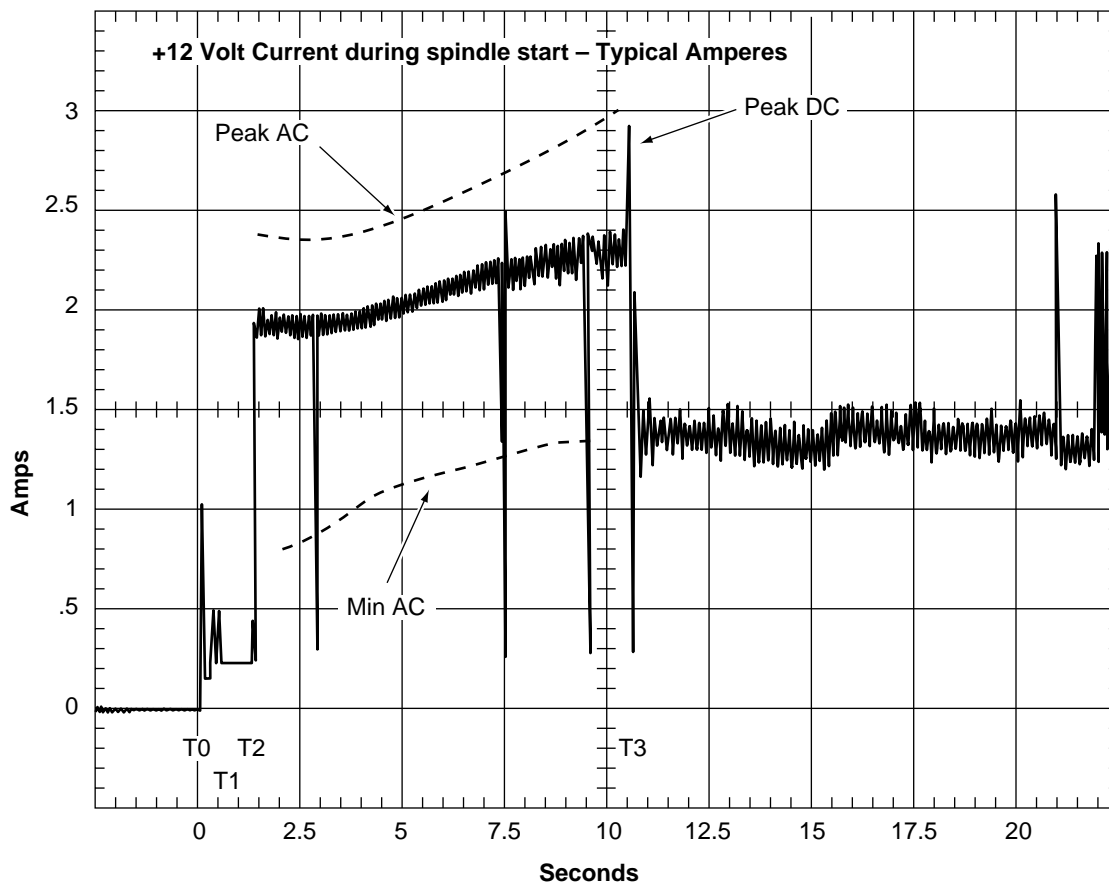

Figure 3. Typical Cheetah 18FC drive +12V current profile
- [3] See +12V current profile in Figure 3.
Figure 3 identifies the drive +12V current profile. The current during the various times is as shown: